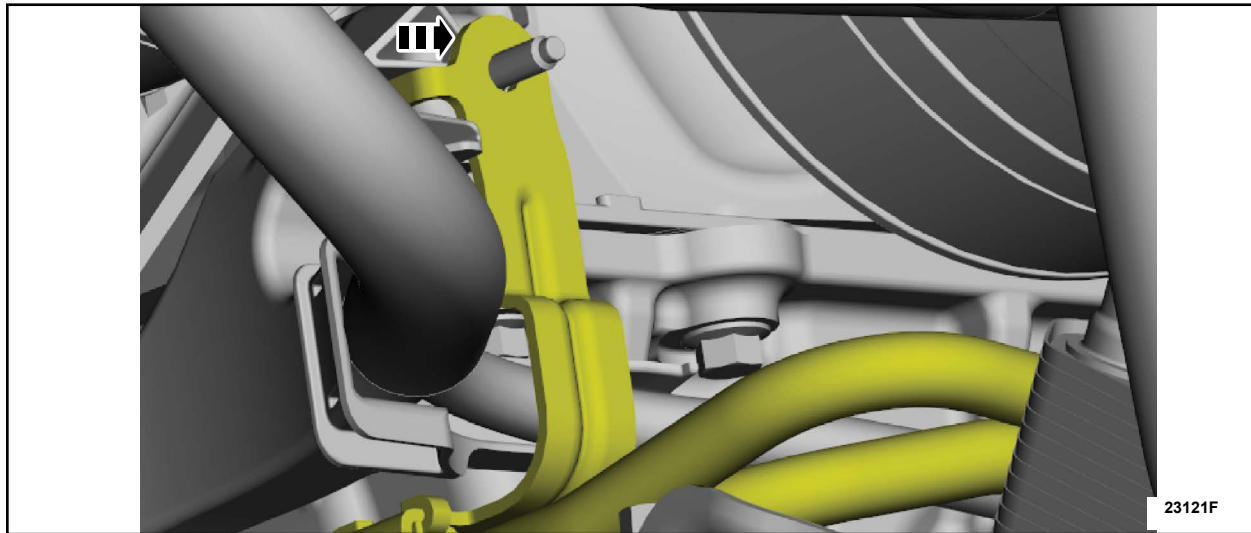

FIGURE 4
17. Position the transmission cooler tube bracket aside. See Figure 4.